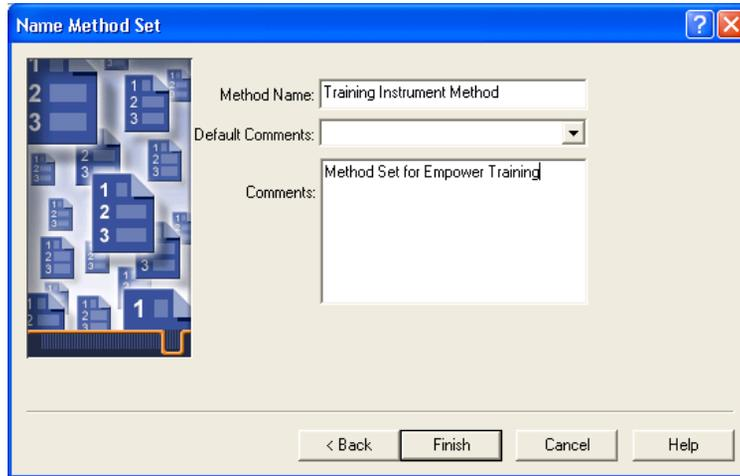

Figure 3-13 New Method Set Wizard, Name Method Set Page
5. Accept the default settings (no methods), then click **Next**. The Name Method Set page appears (Figure 3-13).